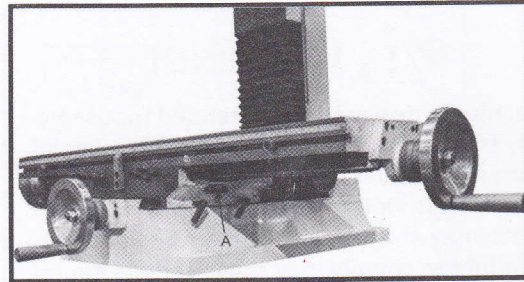
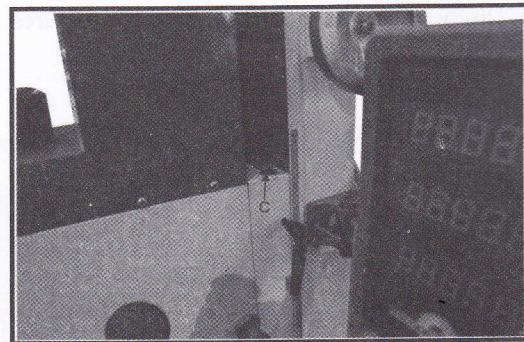

Fig.17
Fig.18
1. The horizontal gib adjustment screw (A, Fig. 17) is found to the rear right on table. The traverse gib adjustment screw (B, Fig. 17) is found on the right side of saddle under the table. The vertical gib adjustment screw (C, Fig. 18) is found onto the column.